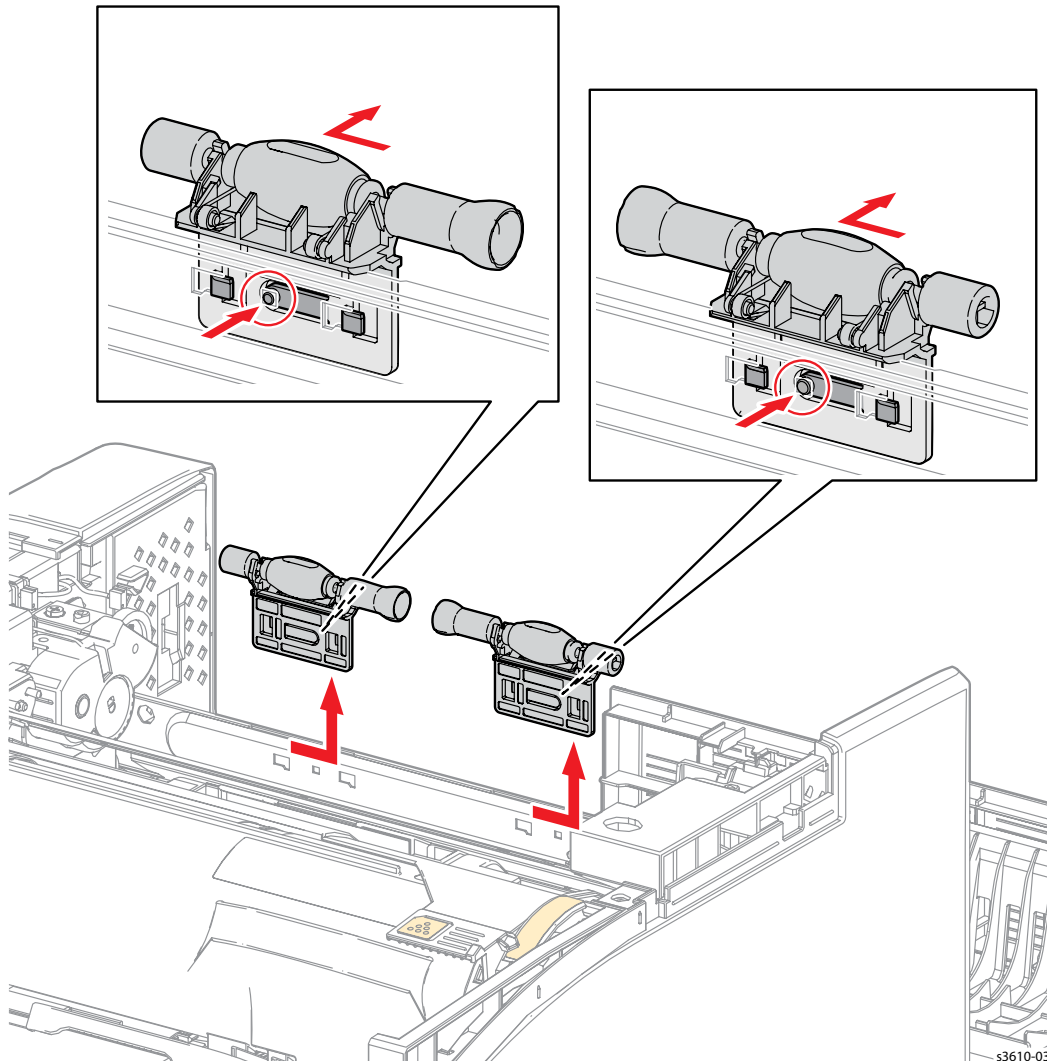

Figure 1
2. Remove the pinch rollers by carefully releasing the clips and moving them in the direction indicated. (Figure 1)